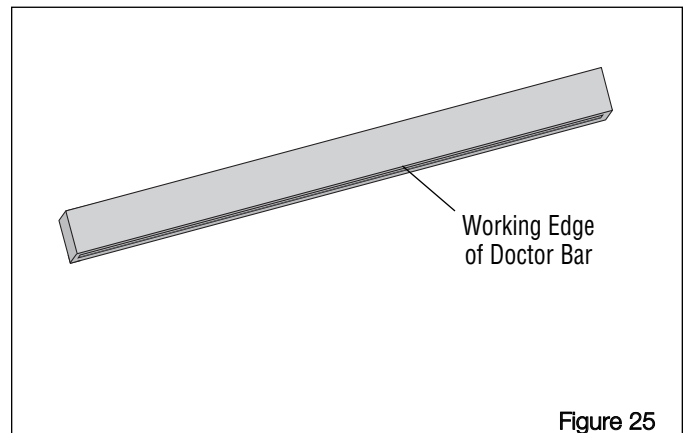

Figure 25
- a. The Odyssey® Doctor Bar should be installed with the working surface of the Bar facing the Developer Roller (Figure 25).